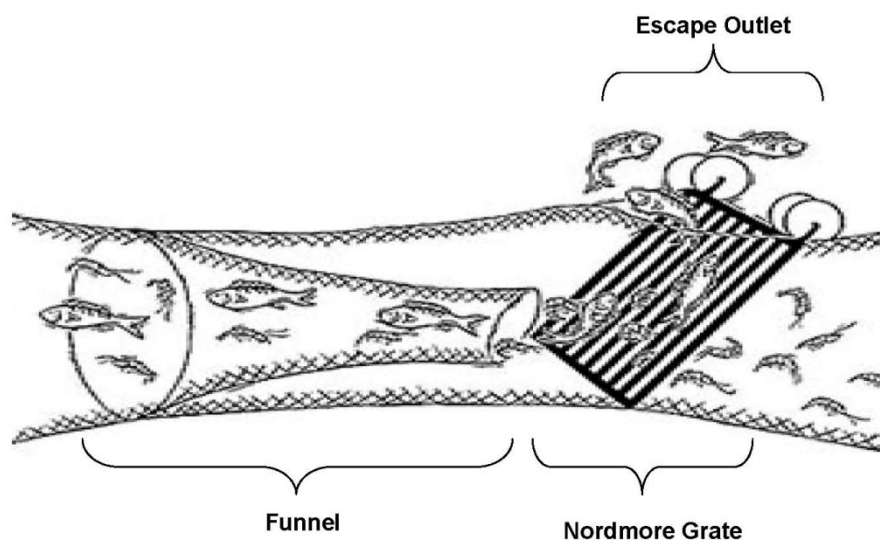

Figure 18. Example of a separator device (Nordmore grate) and escape outlet.
A metal grate directs some species towards an escape outlet (see Figure 18).
**Escape Outlet:** An intentional opening in the net that allows non-target species to exit the trawl (see FIGURE 18). Escape outlets must be associated with a separator device; a torn hole in the net does not qualify as an outlet. Escape outlets may be located on various parts of the net (top, bottom, near the front, near the codend, etc.)
**Shrimp Trawl:** A very small mesh trawl used to target shrimp. Must have a grate consisting of parallel bars that excludes non-target species (see FIGURE 18).10